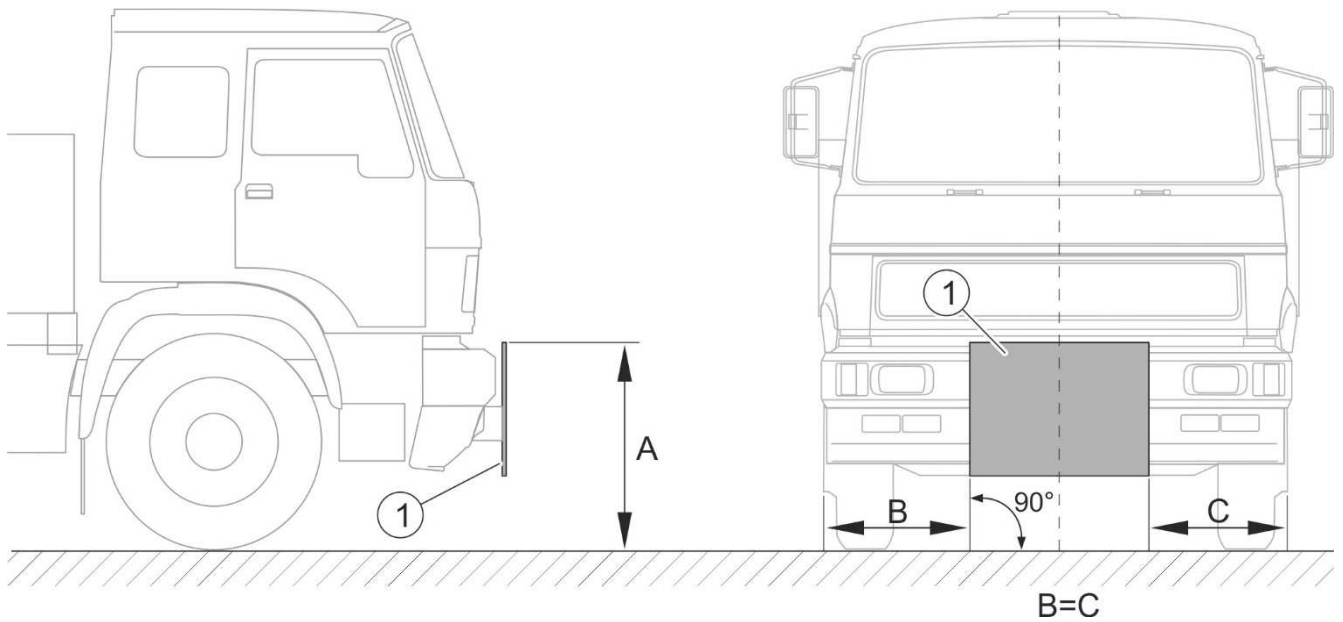

FIGURE 4.2 Mounting the front plate.
(1) – front plate of linkage; (A) – height from the top edge of the plate to the ground; (B), (C) – distance between the side edge of the plate and the carrying vehicle edge.
The front plate should be mounted vertically in the carrying vehicle's axis of symmetry (FIGURE 4.2). The height (A) (FIGURE 4.2) from the top edge of the plate to the ground should be: